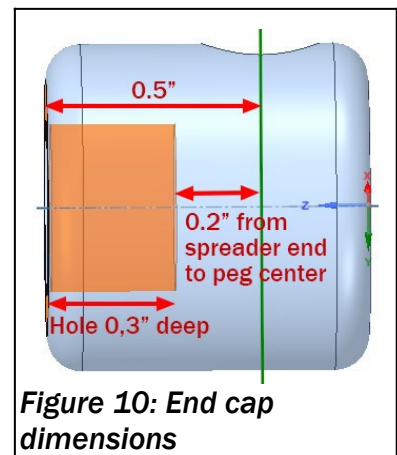

Figure 10: End cap dimensions
7. Refer again to **Figure 10**. The face of the end cap will be 0.5" from the pencil line when the spreader is inserted into the cap.